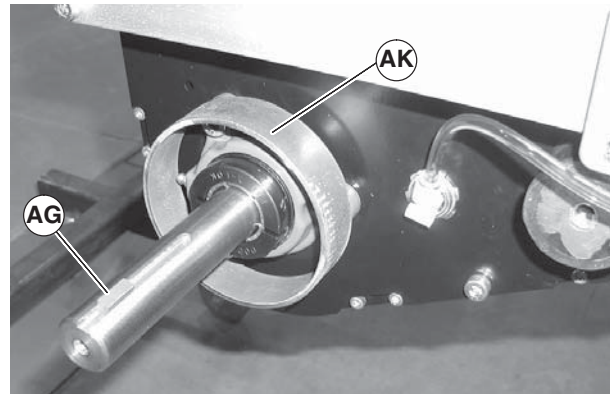

Figure 78
4. Remove spacer ring (Figure 78, item AK) and key (AG).